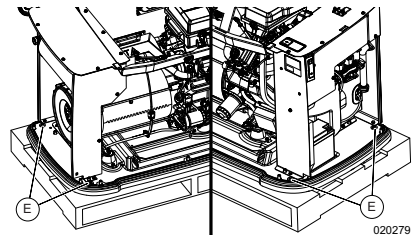

Figure 2-2. Pallet Bolts Locations
4. See Figure 2-2. Remove bolts and washers (E) located inside generator enclosure to release pallet. Exercise caution when removing generator. Dragging it off pallet will damage base. The unit must be lifted from wooden pallet to remove.